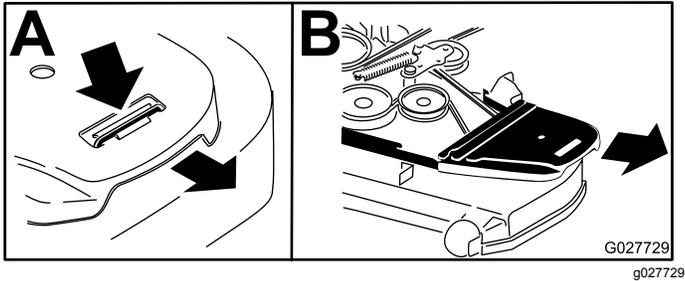

Figure 94
7. Remove the plastic belt cover (Figure 94).
6. Remove the belt covers (Figure 94).